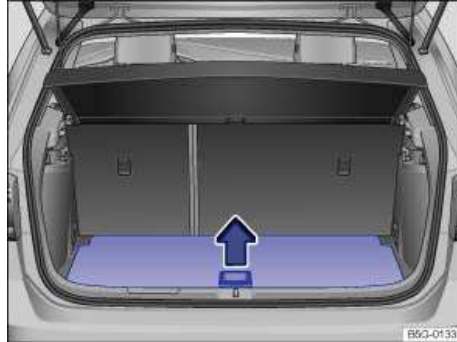
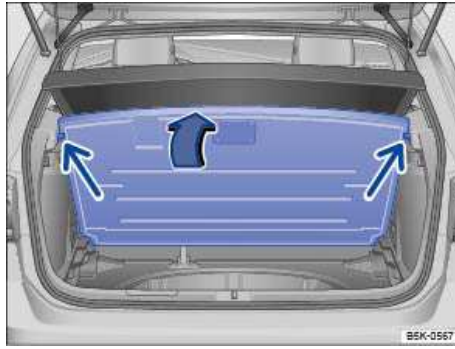

Fig. 94 In the luggage compartment: Opening the variable luggage compartment floor.
Fig. 95 In the luggage compartment: Variable luggage compartment floor folded up.
- To *open* the luggage compartment floor, lift the recessed handle ⇒ fig. 94 and guide the floor upward until it is held in position by the stops on either side of the luggage compartment ⇒ fig. 95 (arrows).
- Grasp the recessed handle ⇒ fig. 94, lift the luggage compartment floor, and pull it rearward out of the guides on the sides of the luggage compartment.